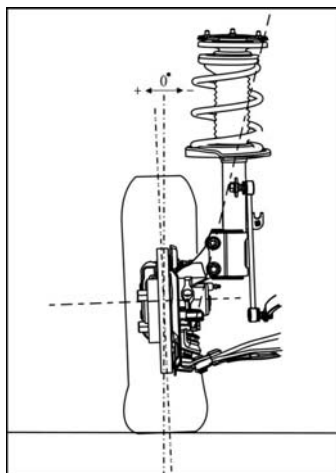

Fig. 2-4
(2) Wheel camber angle: Extroversion is viewed from the front of the vehicle. It refers to the angle of the wheel off the vertical direction as shown in Fig. 2-4. If the top point of the angle is towards outside, the camber angle is positive (+); while towards inside, it is negative (-). Extroversion will not only influence the control on the direction, but also the wear and tear of the wheels. An excessive extroversion will result in a worn wheel and cause the vehicle to move towards the largest camber angle or to one side.